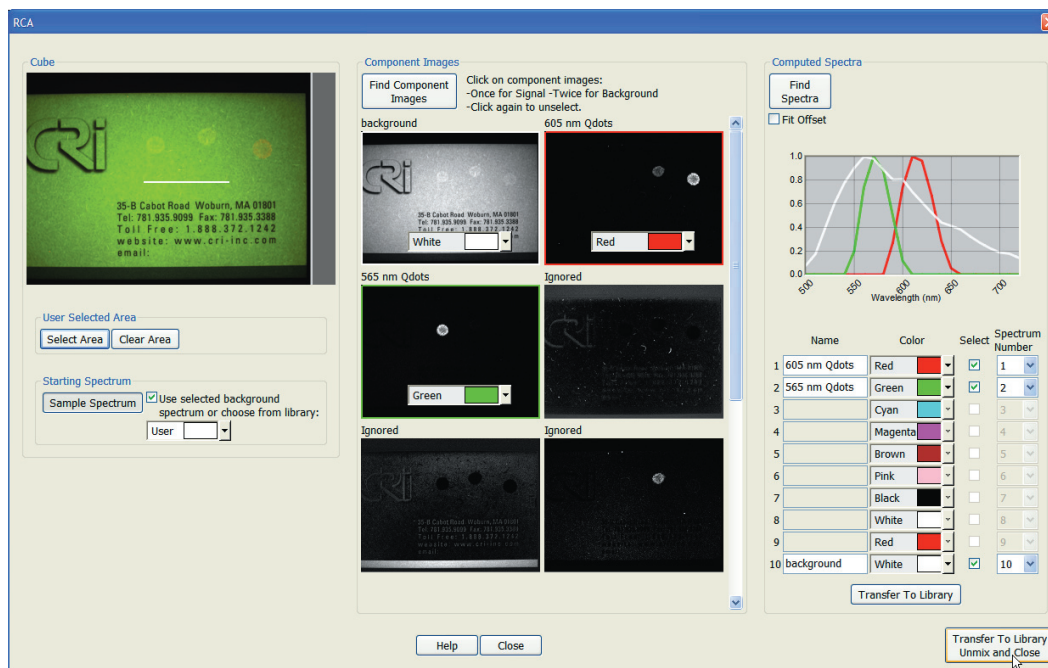

Figure 46. Real Component Analysis
9. The computed spectra should look like simple gaussian curves (as in Figure 46) for quantum dots, and should have longer tails for most fluorescent dyes. Occasionally, for weak signals, there may be too much baseline offset in the data. Try selecting the **Fit Offset** option and clicking the **Find Spectra** button again and see if the results improve.